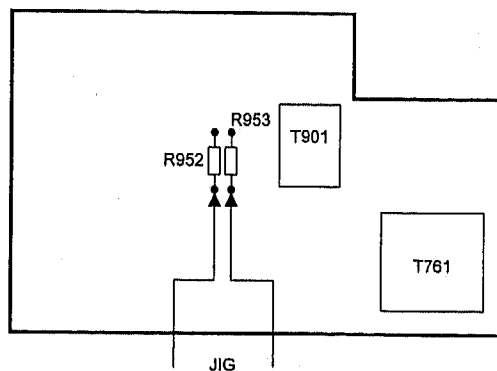
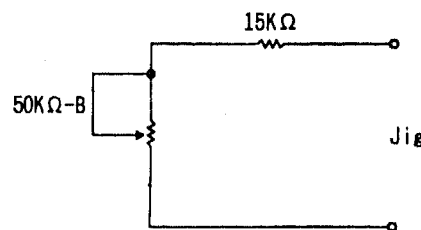

Fig. 1.
Fig. 3
5. Turn the switch of the set to off and connect the jig shown in Fig.3 at R952, R953 as shown in Fig 1.